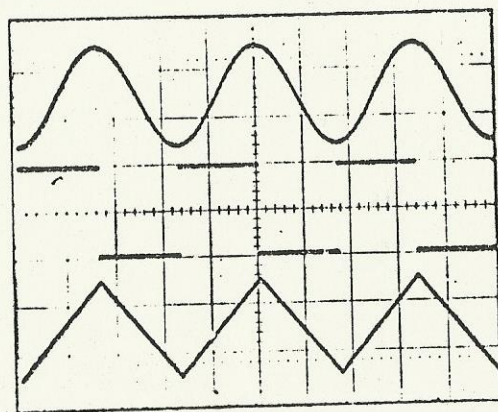

FIG. 2 WAVE FORM
4.4 See figures 2,3,4, 5 and 6 for wave-forms available at the output sockets.